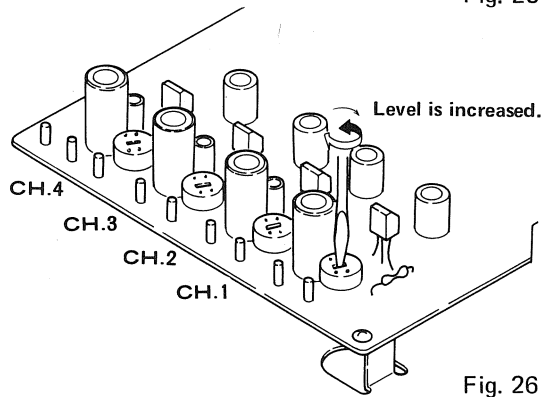

Fig. 26
3. Turn the potentiometers on the control amplifier unit so that the output level may read 0.775V for each channel (CH.1 to CH.4) (Fig. 26).